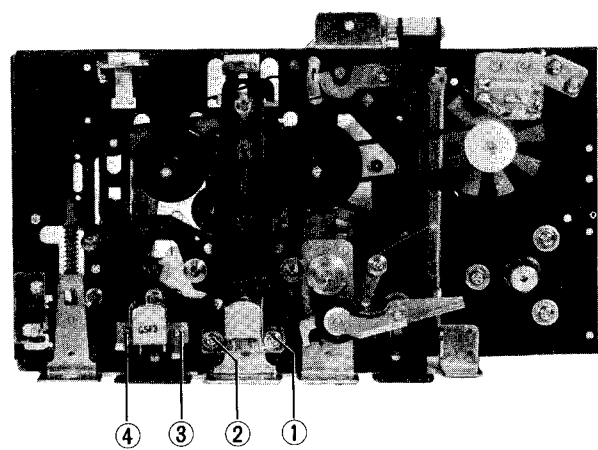

Fig. 25
(Remove 2 screws ③ & ④) (Fig. 25)
(Remove 2 screws ① & ②) (Fig. 25)